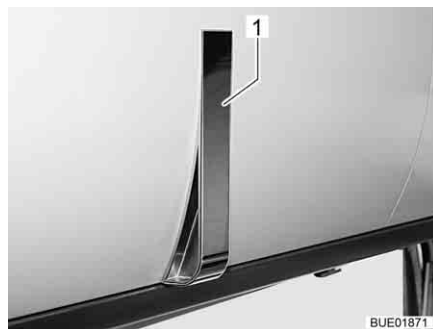

Fig. 38 Furniture flap with handle (example)
- Pull handle (Fig. 38,1) until furniture flap is open.